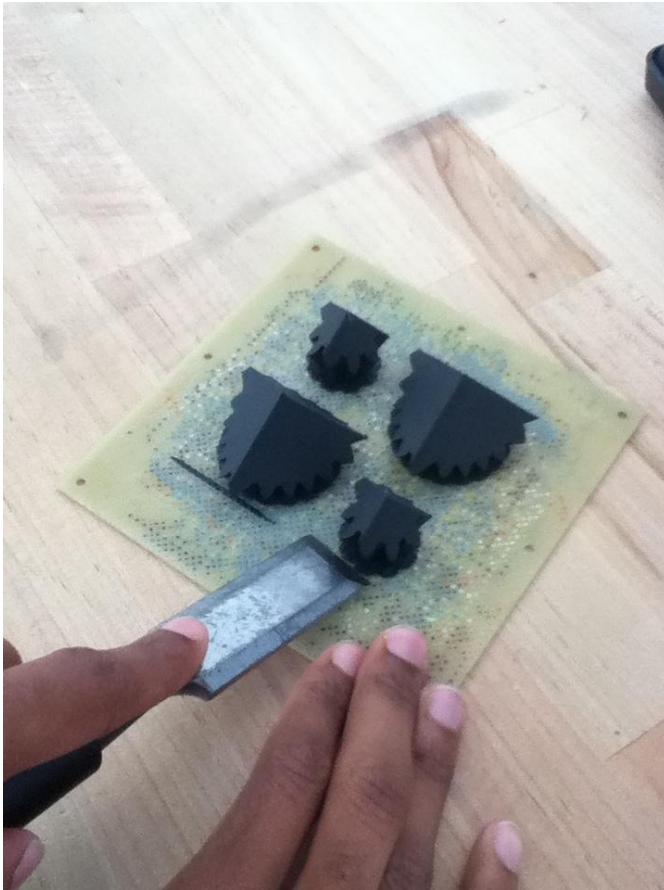

Figure 14: Correct Hand Placement and Chisel Action
23. Use a wood chisel to remove the material from the platform displayed in Figure 14.